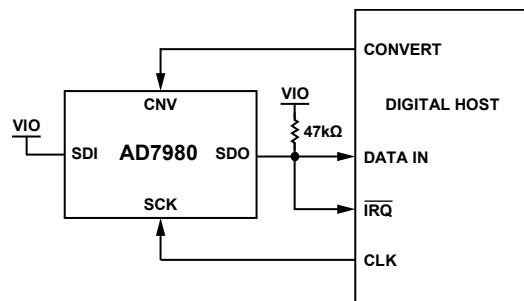
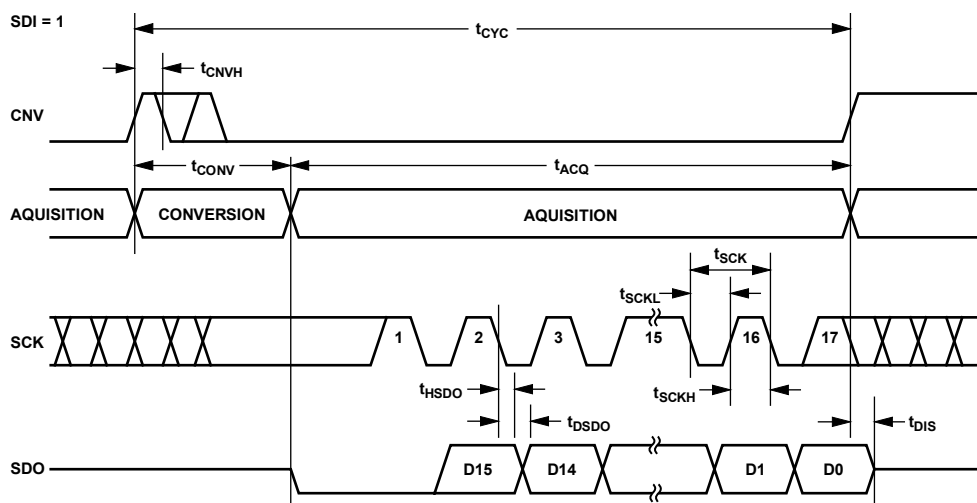
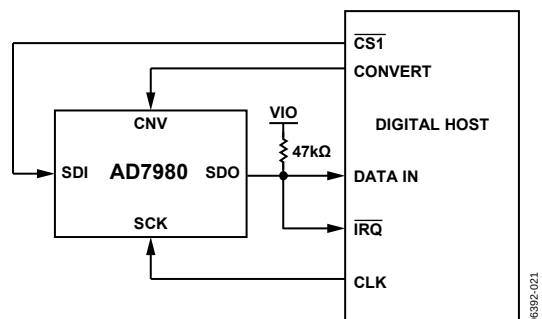
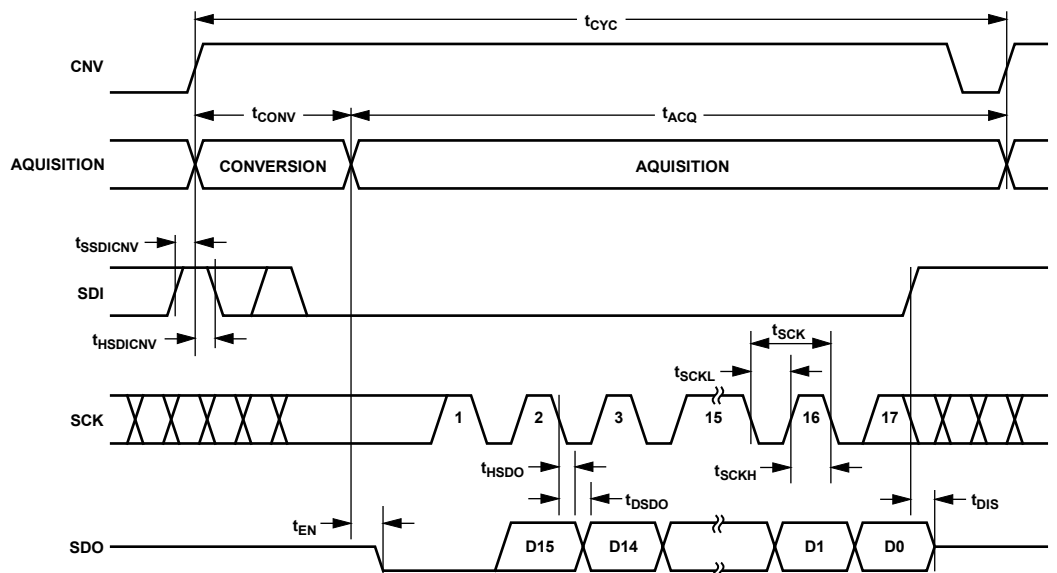

Figure 33. 3-Wire $\overline{\text{CS}}$ Mode with Busy Indicator Connection Diagram (SDI High)
Figure 34. 3-Wire $\overline{\text{CS}}$ Mode with Busy Indicator Serial Interface Timing (SDI High)
Figure 37. 4-Wire $\overline{\text{CS}}$ Mode with Busy Indicator Connection Diagram
Figure 38. 4-Wire $\overline{\text{CS}}$ Mode with Busy Indicator Serial Interface Timing
- In the $\overline{\text{CS}}$ mode if CNV or SDI is low when the ADC conversion ends (see Figure 34 and Figure 38).
The connection diagram is shown in Figure 33, and the corresponding timing is given in Figure 34.
The connection diagram is shown in Figure 37, and the corresponding timing is given in Figure 38.